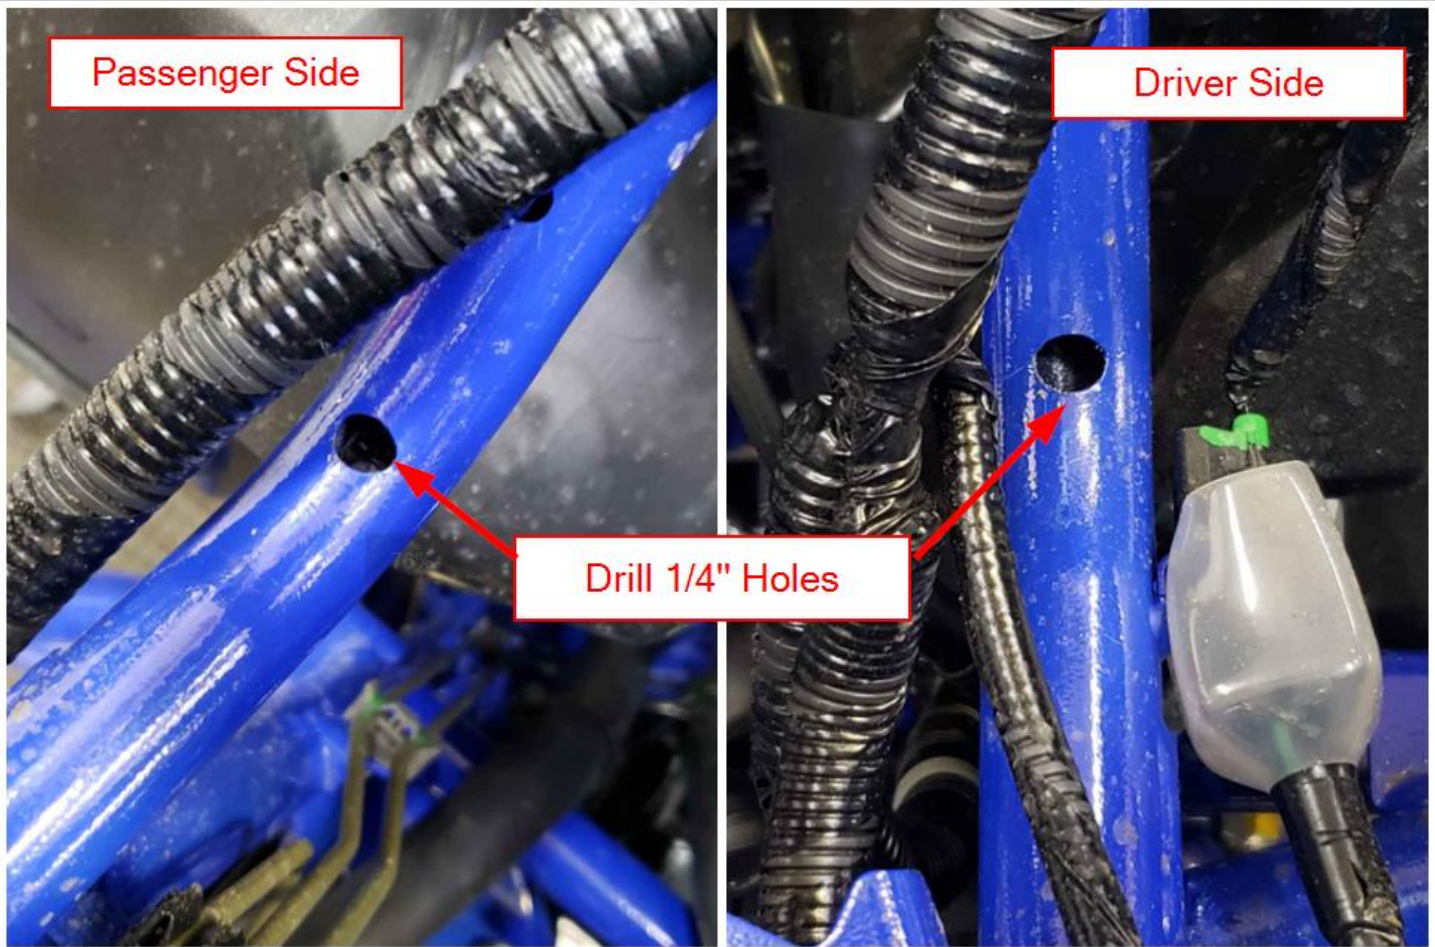

Figure 15
- j. Using a 1/4" Drill Bit, drill holes in the two framing members found at the front of the vehicle as shown in Figure 15.